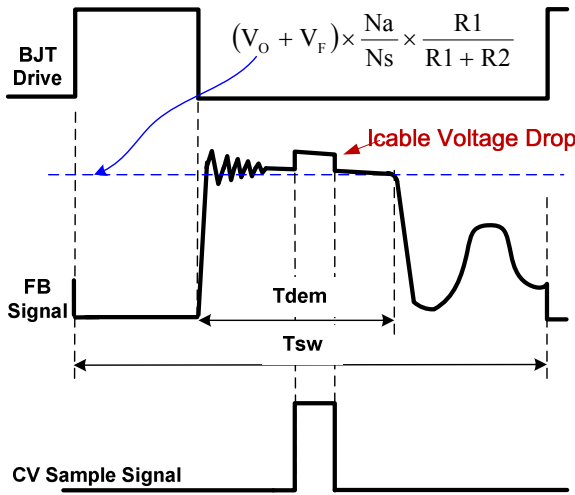

Fig.2
In primary side control, the output voltage is sensed on the auxiliary winding during the transfer of transformer energy to the secondary. Fig.2 illustrates the CV sampling signal timing waveform in DP2520. As shown in Fig.2, it is clear that there is a down slope representing a decreasing total rectifier V_f and its voltage drop as the secondary current decreases to zero. To achieve an accurate representation of the secondary output voltage on the auxiliary winding, the CV sampling signal blocks the leakage inductance reset and ringing. When the CV sampling process is over, the internal sample/hold (S&H) circuit captures the error signal and amplifies it through the internal Error Amplifier (EA). The output of EA is sent to the Primary Side Constant Voltage Modulator (PSR-CVM) for CV control. The internal reference voltage for EA is trimmed to 2V with high accuracy.
During the CV sampling process, an internal variable current source is flowing to FB pin for Cable Drop Compensation (CDC). Thus, there is a step at FB pin in the transformer demagnetization process, as shown in Fig.2. Fig.2 also illustrates the equation for “demagnetization plateau”, where V_o and V_f is the output voltage and diode forward voltage; R1 and R2 is the resistor divider connected from the auxiliary winding to FB Pin, N_s and N_a are secondary winding and auxiliary winding respectively.